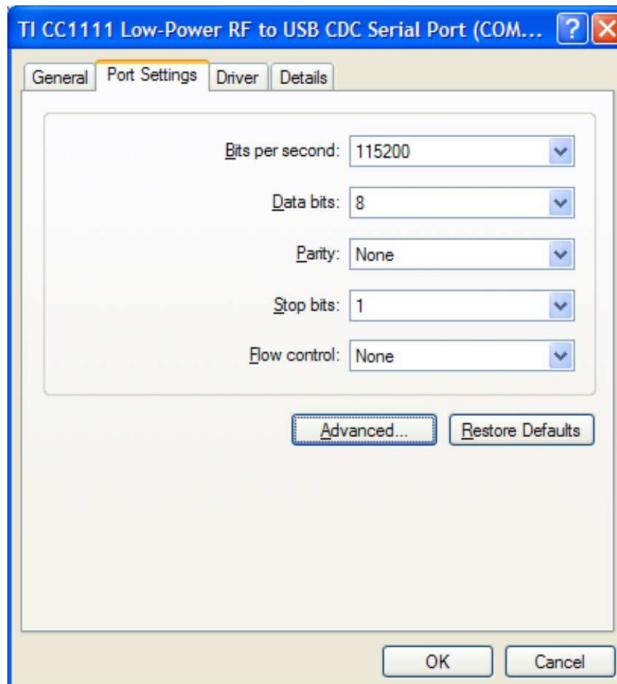
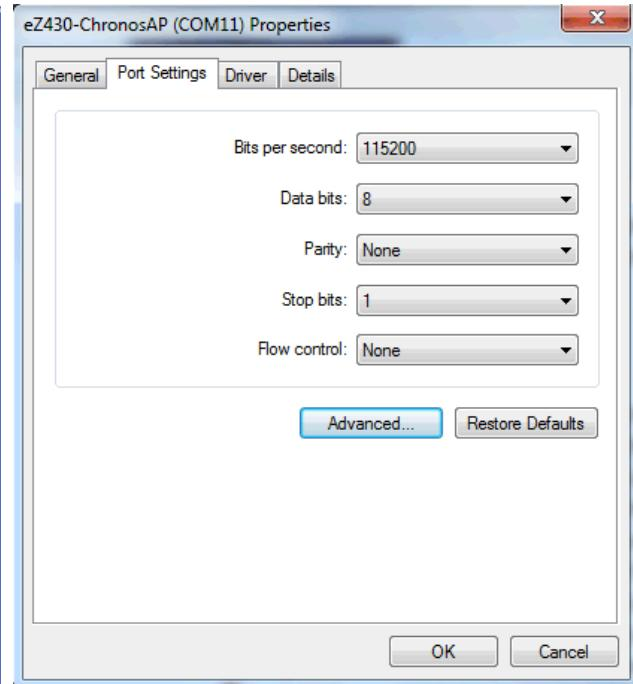

Figure B-10. Port Settings for eZ430-Chronos With Black PCB
Figure B-11. Port Settings for eZ430-Chronos With White PCB
9. Verify correct properties of the port settings (see Figure B-10 and Figure B-11).